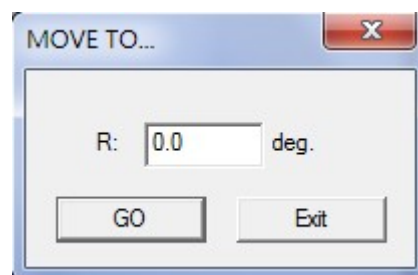

Fig. 6.2.02
1. Click "MOVE TO..." button and input the degree value in the dialog box like Fig.6.2.02 and click "GO," the rotary axis will rotate to that specific angle. The rotating speed can be adjusted from "Speed" parameter.